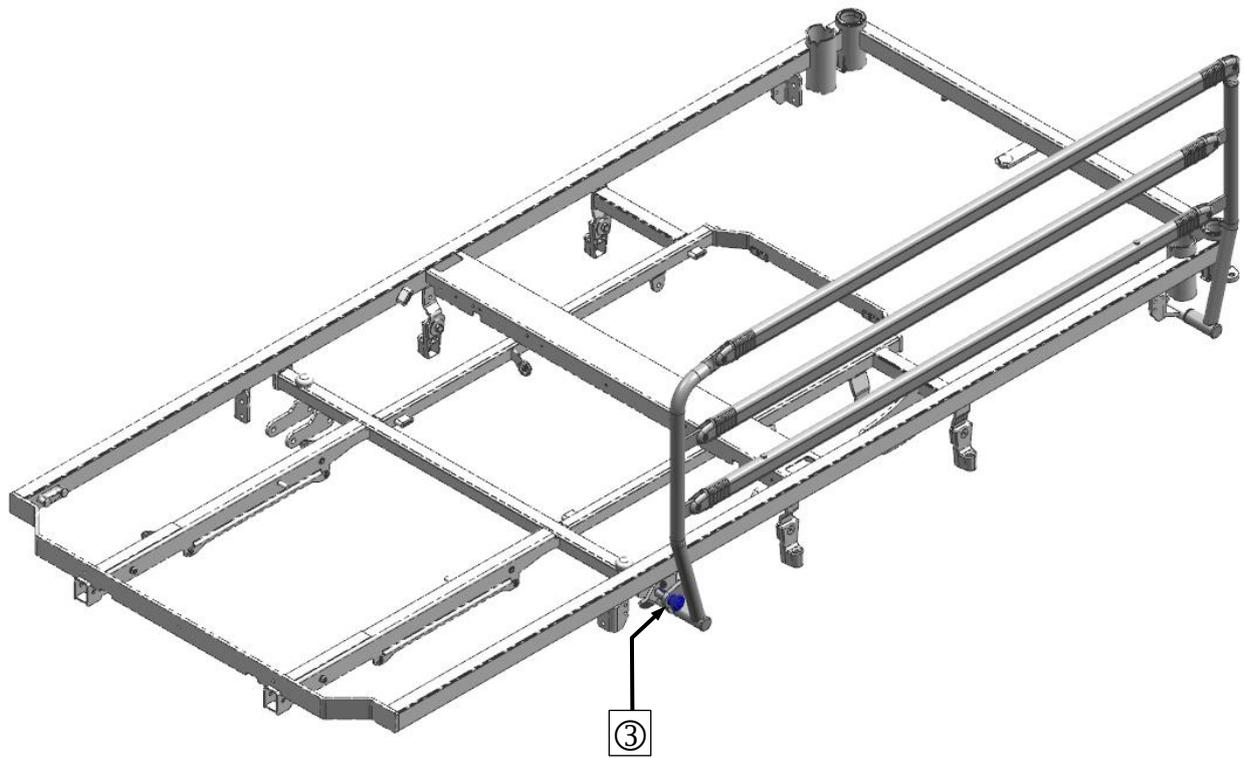

Fig. 3
- Ensure that the side with the release button is closest to the foot end of the bed (see Fig. 3 - ③).